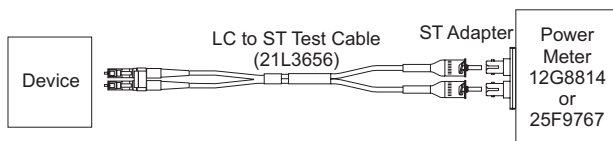

Figure C-10. Measuring Transmit-Out Power for A FICON or ISC-3 Peer Mode Link With LC Connectors
- Figure C-10 on page C-6; FICON or ISC-3 peer mode link with LC connector